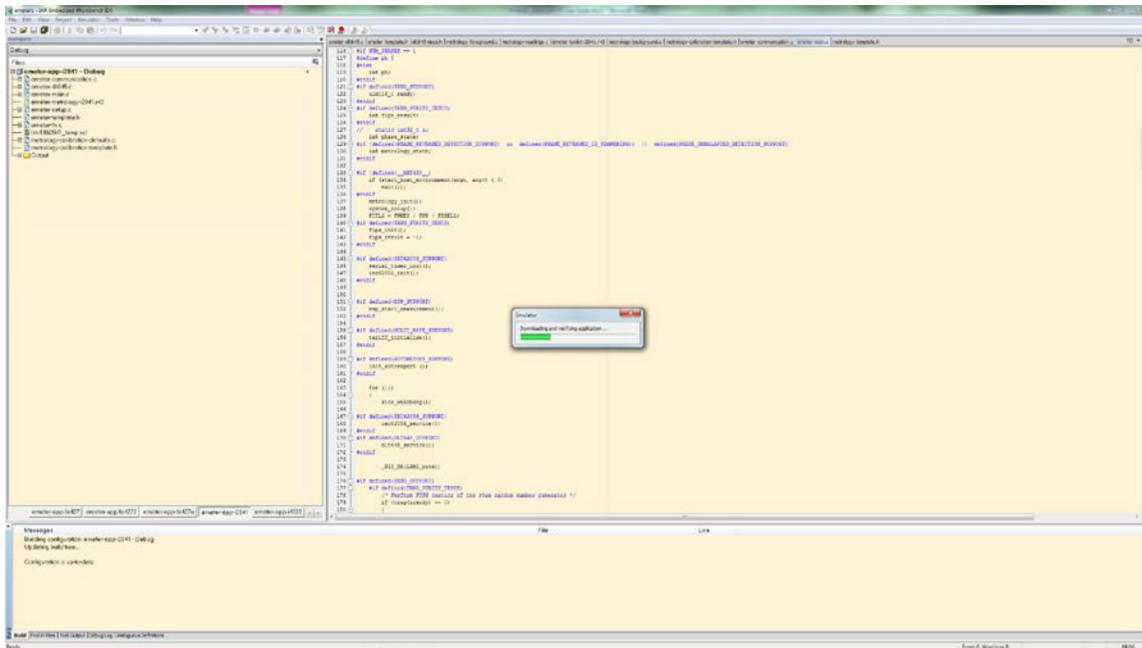

Figure 31. Code Downloading
11. Click the Download and Debug button to begin download and debugging as shown in Figure 31.